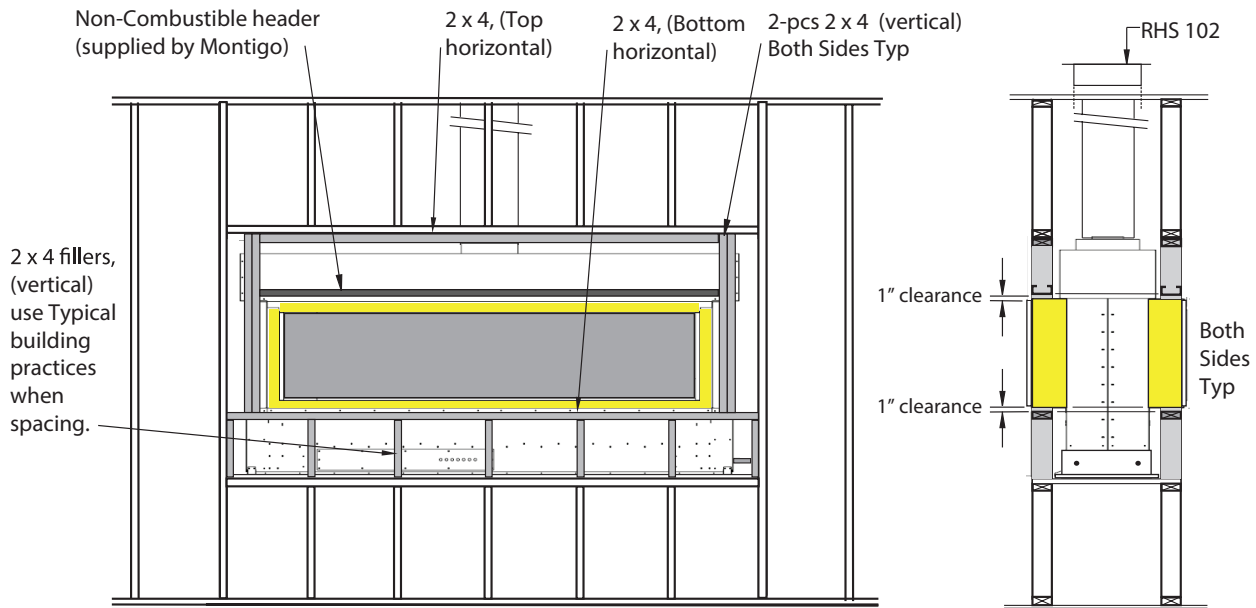

Figure 3 Sec.2 Fireplace installation, *Both Sides are Typical.*
Cut the Upper and Lower Horizontal 2 x 4's as shown in **Figure 2**. Next, cut the Required quantity of short filler 2x4's under the lower Horizontal. Follow Typical building codes and practices when spacing. Next, cut the Required Left and Right Vertical 2 x 4's as shown in **Figure 3**. Lastly, install the Two (2) Supplied Steel Headers above the fireplace throat positioned to attach facing material.